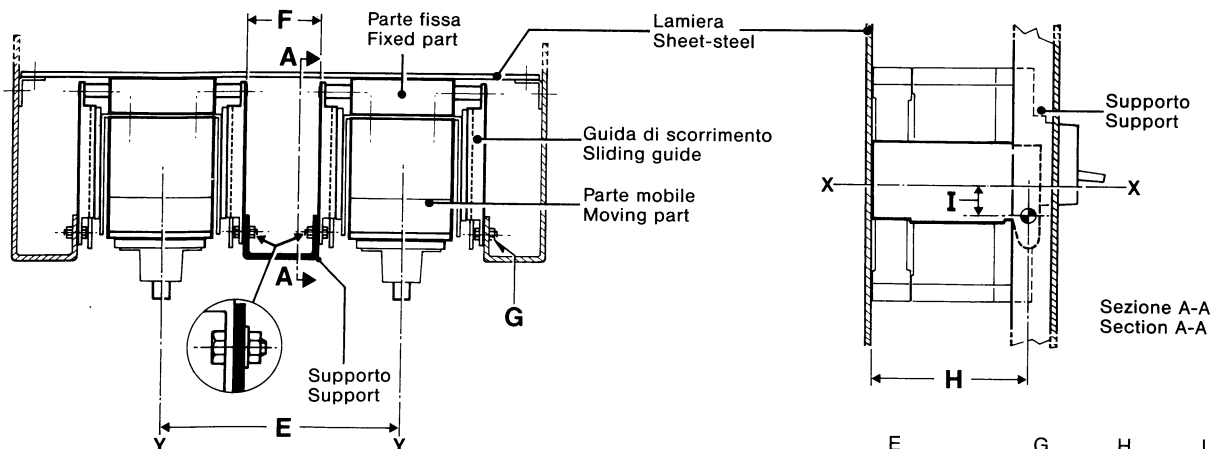

Fig. 5
Per evitare distorsioni delle guide della parte fissa degli interruttori sezionabili, è necessario imbullonare le guide stesse ad appositi supporti oppure in caso di montaggio in cella, alle relative pareti laterali. Nel caso di interruttori montati affiancati (vedere fig. 5), le guide devono essere imbullonate anche ad un apposito sostegno interposto tra i due interruttori e opportunamente vincolato alla struttura della cella stessa.
To prevent distortions of the guides of the fixed part of draw-out circuit-breakers, it is necessary to bolt these guides to special supports or, in case of compartment assembly, to the side walls. For circuit-breakers mounted side by side (see fig. 5), the guides must also be bolted to a special support placed between the two circuit-breakers and suitably fixed to the compartment structure. The overall dimensions of this support (F) must be taken into consideration to establish the minimum center-to-center spacing between the two draw-out circuit-breakers mounted side by side.